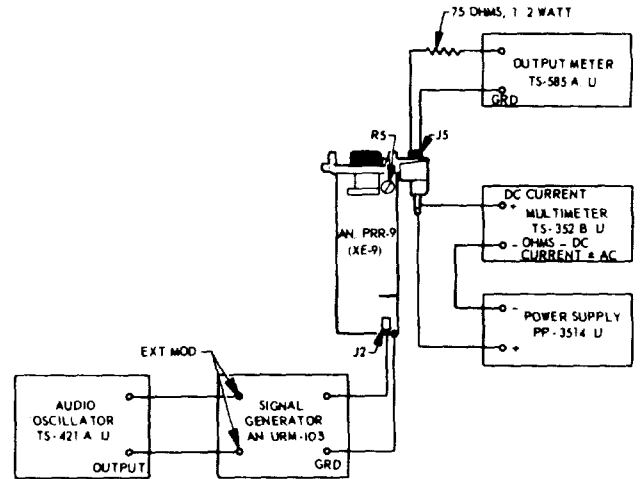

Figure 3-5. AN/PRR-9(XE-9) squelch sensitivity adjustment, test setup.
- a. Connect the equipment as shown in figure 3-5.